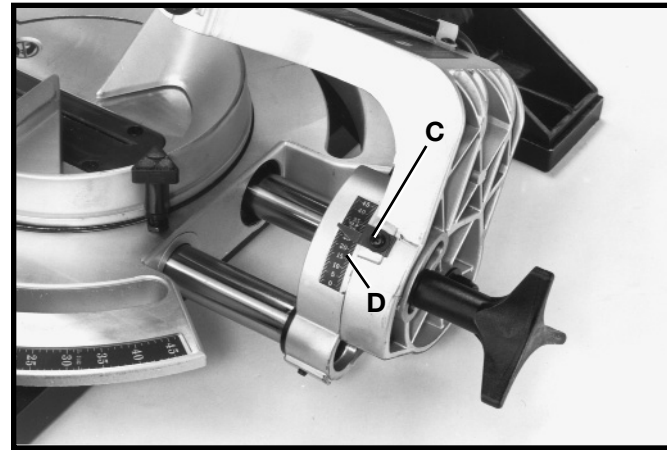

Fig. 42
Positive stops are provided to rapidly position the saw blade at 90 and 45 degrees to the table. Refer to the section of this manual titled “**ADJUSTING 90 AND 45 DEGREE BEVEL STOPS.**” The bevel angle of the cutting arm is determined by the position of the pointer (C) Fig. 42, on scale (D).